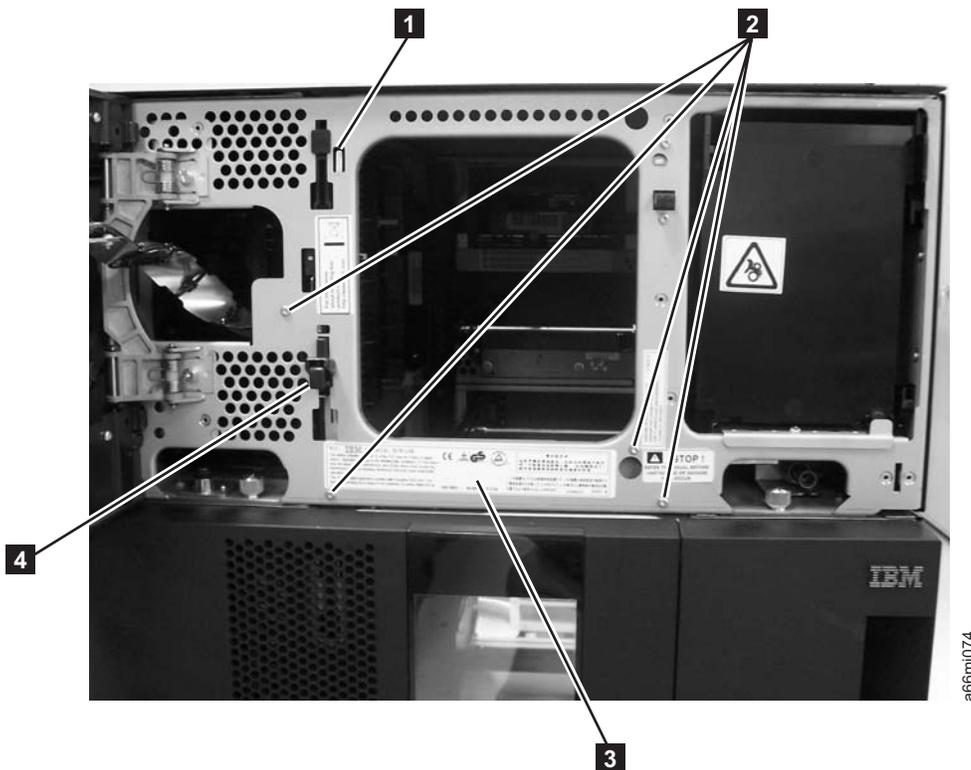

Figure 7-20. Agency Label placement
2. Place the Agency Label (3 in Figure 7-20) on the enclosure frame underneath the Access Door opening.